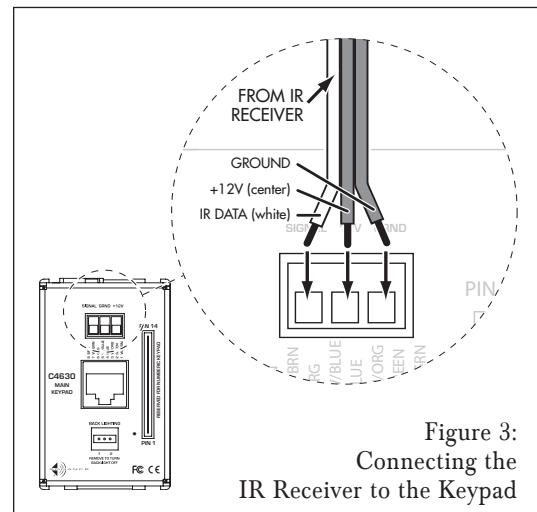

Figure 3:
3. Connect the IR receiver's 3-conductor ribbon cable to the keypad's rear-panel IR Receiver Connection as shown in *Figure 3*. The connection features a 3-pin removable connector similar to the ones used for the speaker connectors. Insert the wires into the openings at the rear of the connector and secure them by tightening the screws at the top of the connector.